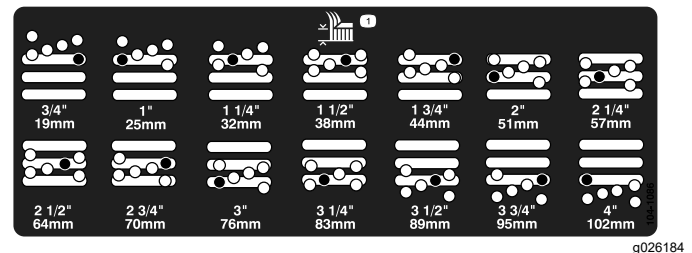

Figure 19
5. Move the chamber to the desired height of cut and install a spacer into the designated height-of-cut hole and slot (Figure 19).